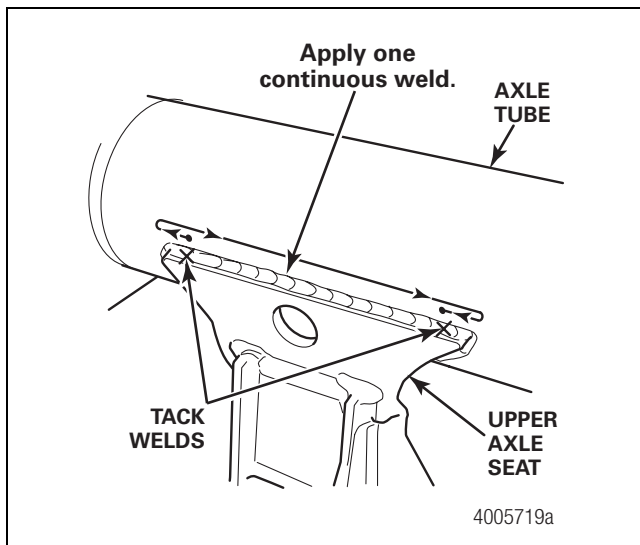

Figure 20
3. Apply the weld in one continuous pass. Start the first weld pass one-inch (25.4 mm) from the edge. Weld to the outside edge, cross back and continue to the opposite edge, then cross back again and end one-inch (25.4 mm) from the edge. Only one pass is needed for a 1/2-inch (12.7 mm) weld. Figure 20.